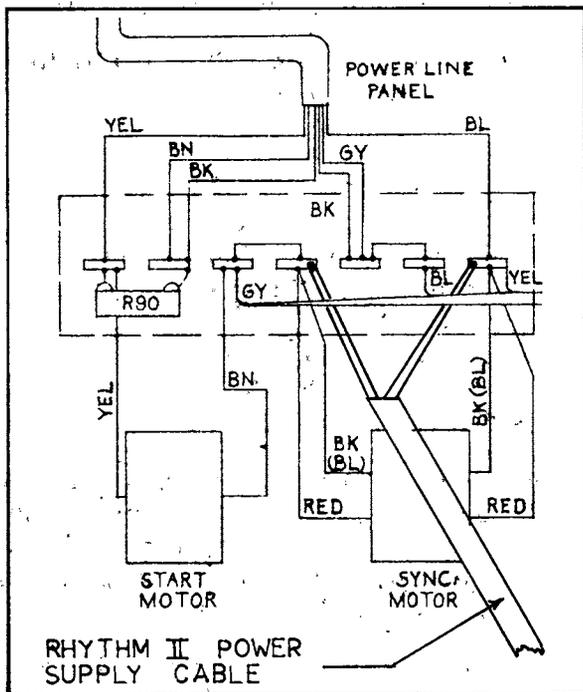

Figure A-12.
- e. Route AC power wires from Rhythm II power supply through hole provided in left rear (rear view) of generator shelf, and solder to terminal strip of generator as shown in Figure A-12.